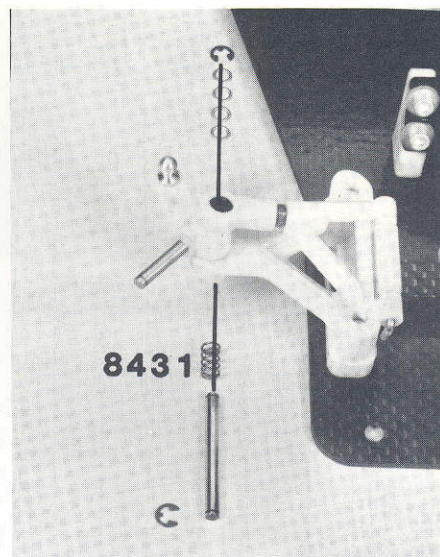

Fig. 14
□ Fig. 14 From bag 2 locate two #8423 kingpins, two #8431 .022 front springs, four #6299 1/8" E-clips, and 8 #8425 steel shims. Push an E-clip into one end of each kingpin. Place one of the springs on the kingpin and then slide it through the pivot ball in the right hand lower suspension arm. Now install the steering block assembly onto the kingpin with the flat side down and then push the kingpin through the upper arm pivot ball. Install